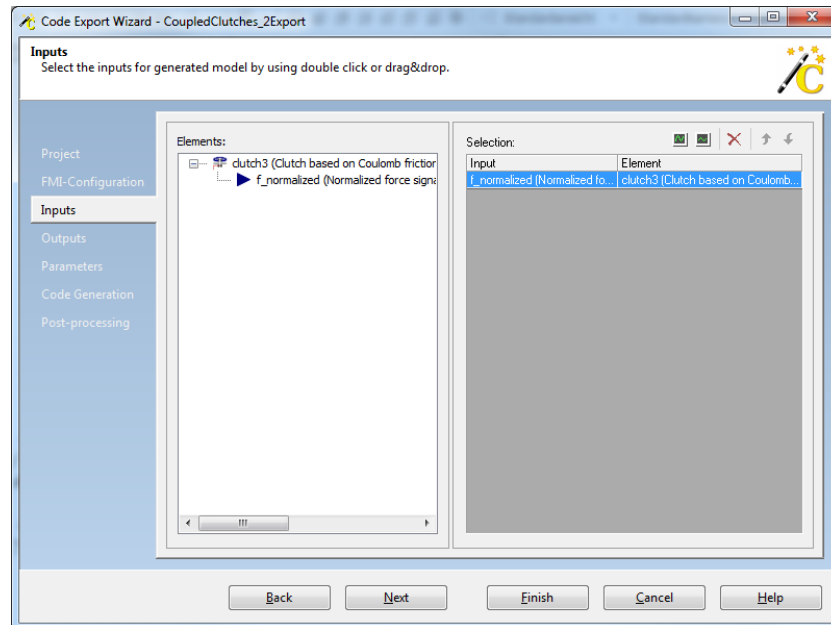

Figure 3: Inputs page of Code Export Wizard.
9. In the Inputs property, the middle column lists elements with available inputs while the right column lists selected inputs. Open the element “clutch3” by clicking the “+” sign next to the name and choose “f_normalized” by double-clicking it. After this operation the window should look like Figure 3. Click “Next”.